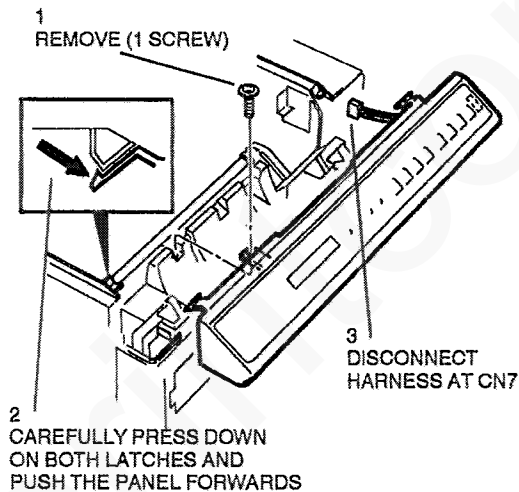

Figure 1. User interface panel removal
3. (Figure 1) Remove the user interface panel.